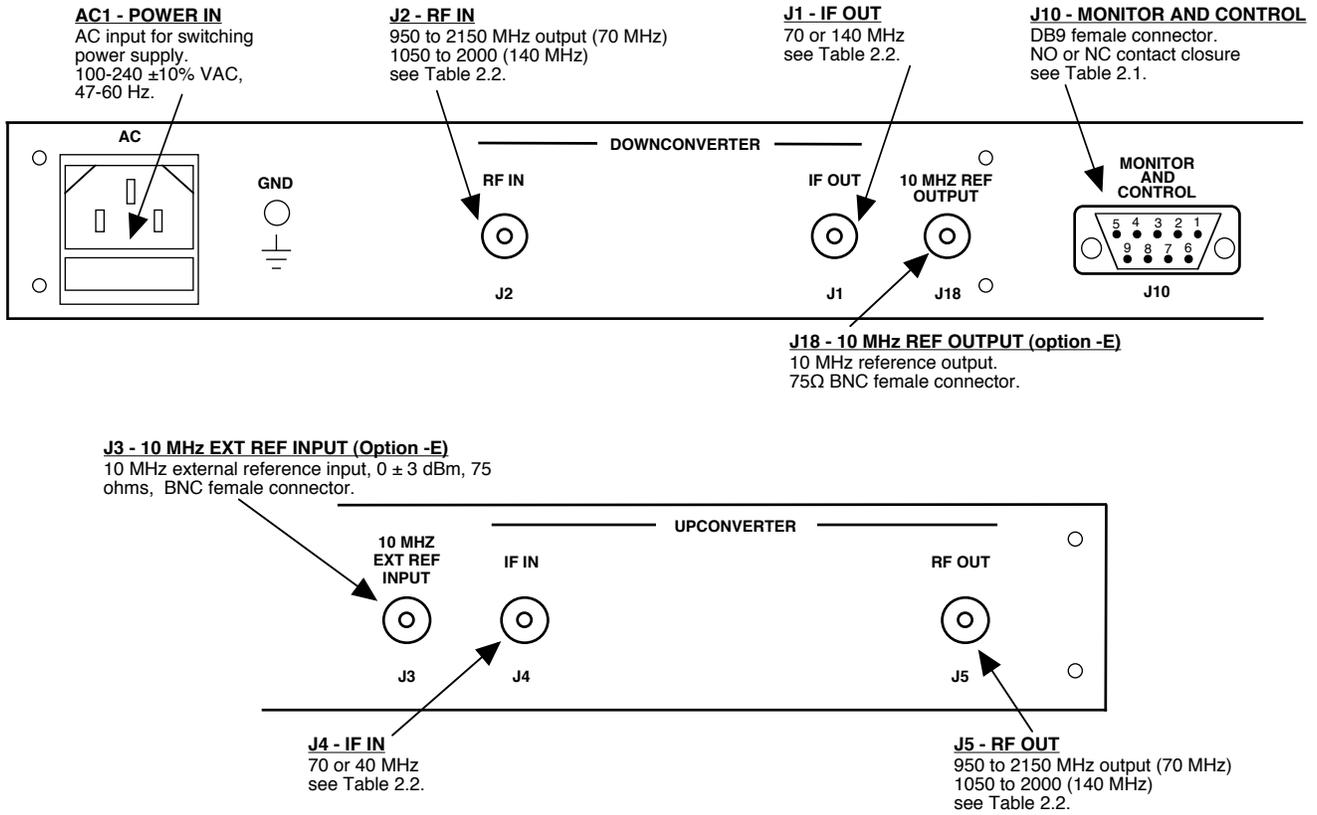

Figure 2.1 Model 2017-TD02 Rear Panel I/O's
Figure 2.1 shows the input and output connectors on the rear panel.
- 1.) Connect a -25 dBm to -45 dBm signal to IF In, J4 (Figure 2.1).
- 1.) Connect a -5 dBm to -35 dBm signal to RF In, J2 (Figure 2.1).